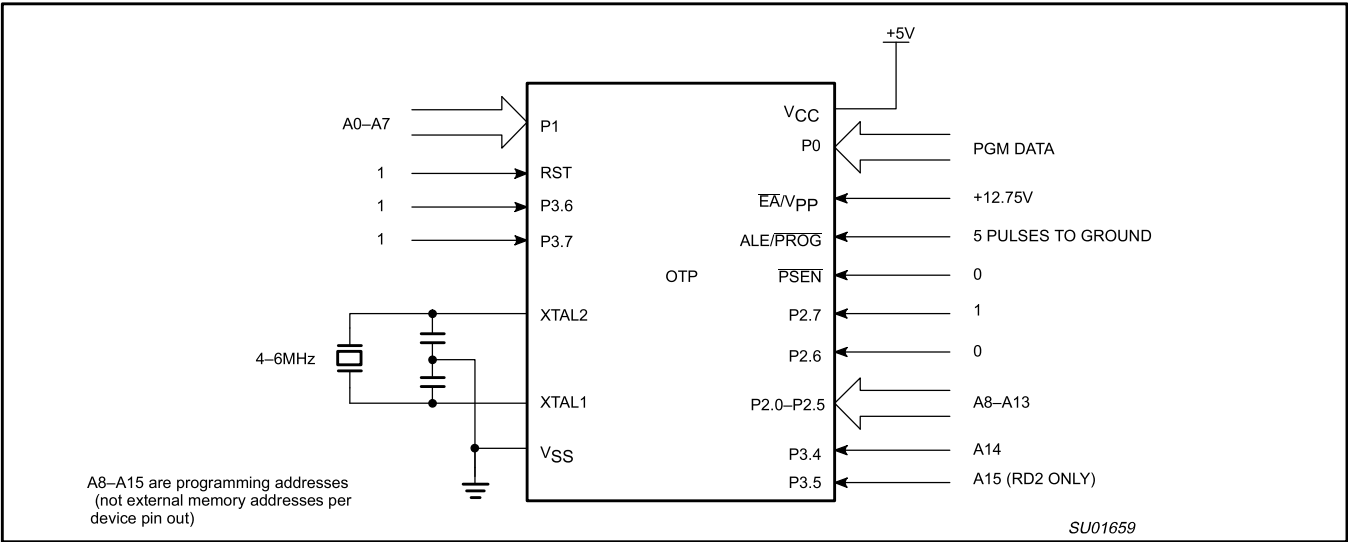
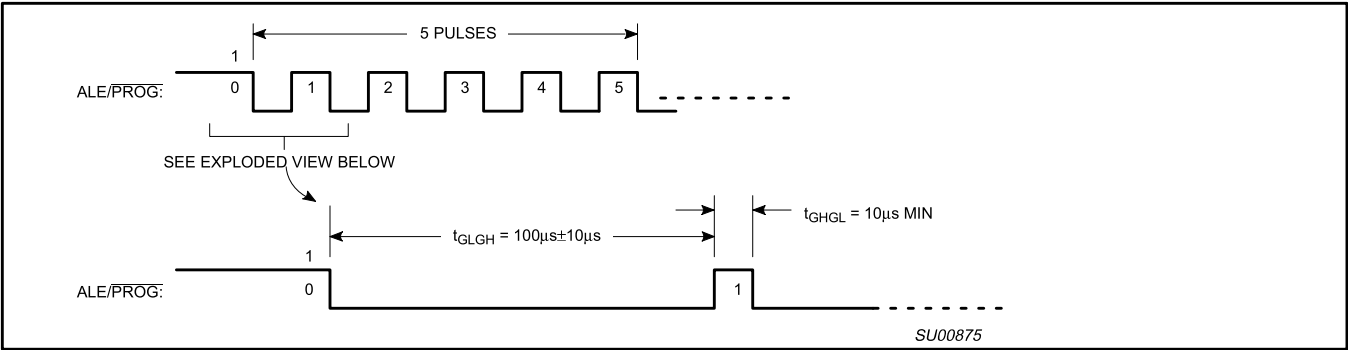
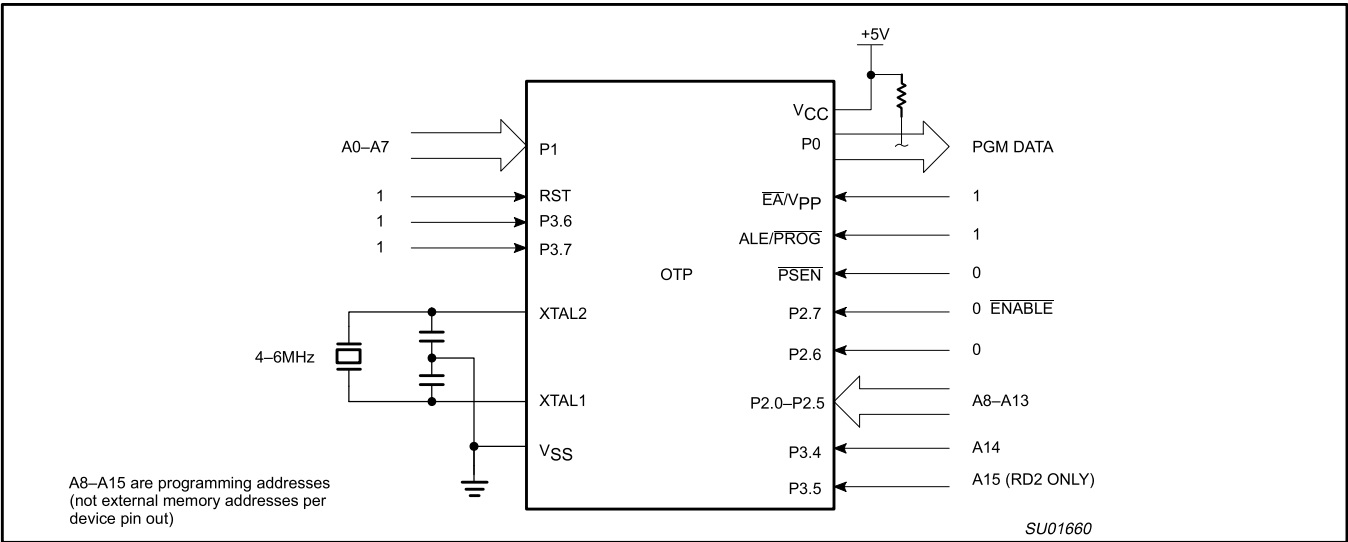

Figure 64. Programming Configuration
Figure 65. PROG Waveform
Figure 66. Program Verification
Table 17 shows the logic levels for reading the signature byte, and for programming the program memory, the encryption table, and the security bits. The circuit configuration and waveforms for quick-pulse programming are shown in Figures 64 and 65. Figure 66 shows the circuit configuration for normal program memory verification.
The setup for microcontroller quick-pulse programming is shown in Figure 64. Note that the device is running with a 4 to 6MHz oscillator. The reason the oscillator needs to be running is that the device is executing internal address and program data transfers.
The address of the EPROM location to be programmed is applied to ports 1 and 2, as shown in Figure 64. The code byte to be programmed into that location is applied to port 0. RST, $\overline{\text{PSEN}}$ and pins of ports 2 and 3 specified in Table 17 are held at the 'Program Code Data' levels indicated in Table 17. The ALE/PROG is pulsed LOW 5 times as shown in Figure 65.
If security bits 2 and 3 have not been programmed, the on-chip program memory can be read out for program verification. The address of the program memory locations to be read is applied to ports 1 and 2 as shown in Figure 66. The other pins are held at the 'Verify Code Data' levels indicated in Table 17. The contents of the address location will be emitted on port 0. External pull-ups are required on port 0 for this operation.
* FOR PROGRAMMING CONFIGURATION SEE FIGURE 64.
FOR VERIFICATION CONDITIONS SEE FIGURE 66.